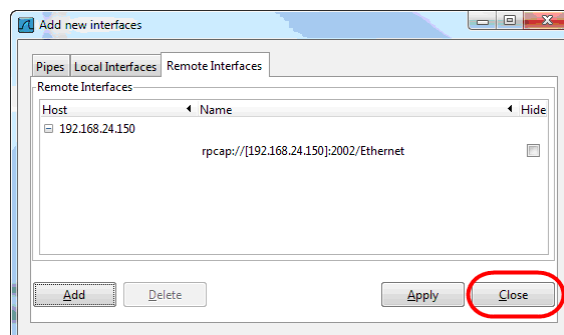

Figure 184: Added new interface to Wireshark.
7. If the connection to the device was established successfully, the **Remote Interfaces** list will be updated with information about all capture ports available on the device as shown in Figure 184.